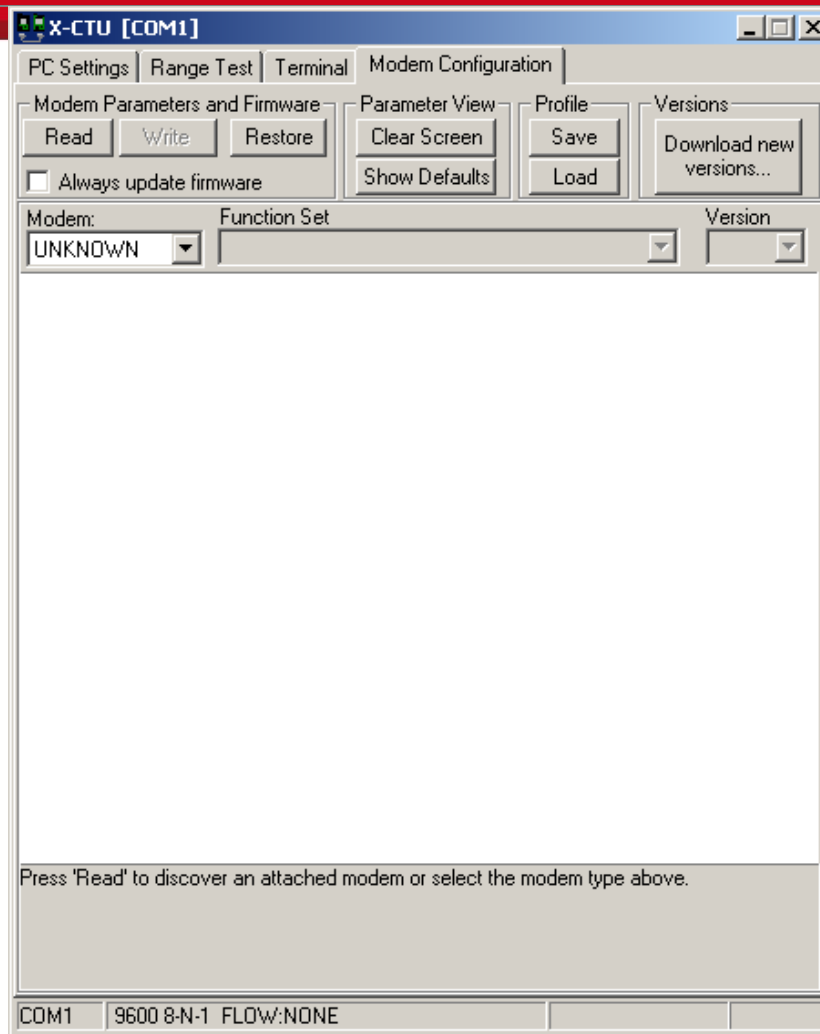

Figure 9
- 3: On the Modem Configuration tab, select "Read" from the Modem Parameters and Firmware section (see Figure 9).